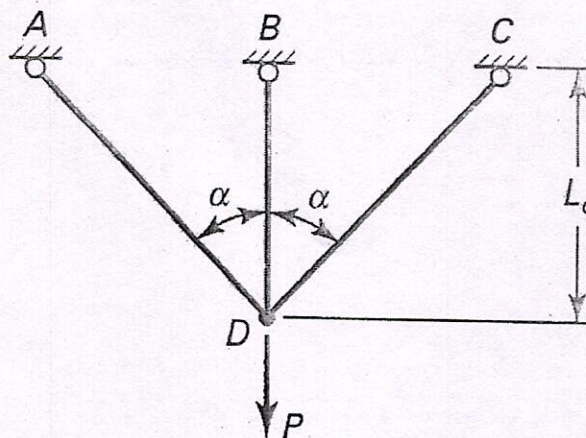

Figure 7
Q.8 Apply Castigliano's first theorem to compute the force P required to cause a vertical displacement $\Delta_v = 5$ mm in the hinge-connected structure depicted in Figure 7. Let $\alpha = 45^\circ$,